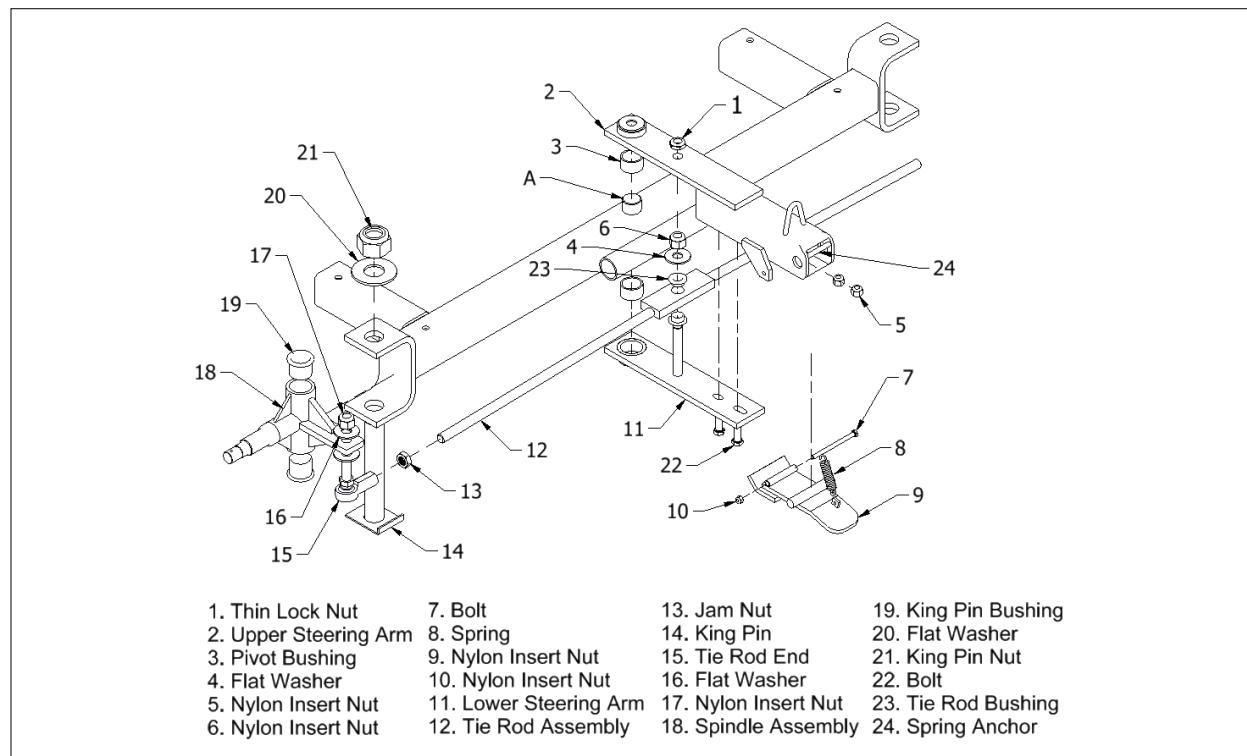

Figure 4-5 Exploded View of Undercarriage
(The remaining steps are illustrated in Figure 4-5)
To remove the spindle assembly, follow the maintenance steps for the front hub assembly before beginning the next steps. (See Figure 4-5).
- a. Remove the thin lock nut (1).
- b. Remove nuts (17) and flat washers (16).
- c. Remove bolts (22) and nuts (5). Allow lower steering arm subassembly (11), bushing (3), and tie rod assembly (12) to drop down; place to the side.
- d. Lift upper steering arm subassembly vertically to clear pivot pin (reference arrow (A), then pull to clear tank and front axle tube.
- e. Remove tie rod assembly (12) by removing nut (6) and flat washer (4). Note the presence of the bushings (23).
Refer to Figure 4-5 for the removal of the tie rod. Before beginning this process make sure that you have followed the steps for the steering arm assembly. **Note presence and location of bushings (23) when removing tie rod assembly from steering arm assembly.**